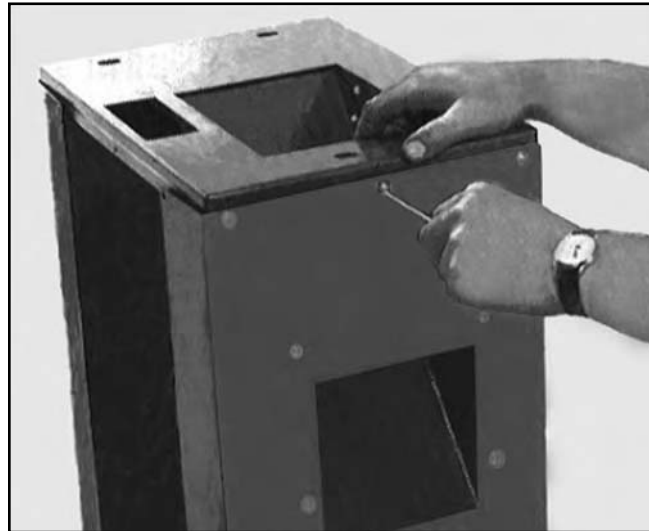

Figure 6. Attaching the top of the stand.
4. Attach the top of the stand to the sides and dust chute. Note that the flanges for the top are inside the stand (the flanges for the dust chute opening should be outside the dust chute, however) and that the opening for the drive belt is at the rear of the stand. **See Figure 6.**